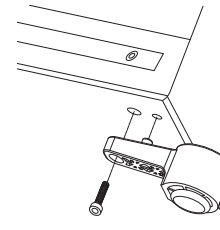

Figure 7B
11. Using the supplied wrench and bolts attach the four feet to the Loudspeaker. Refer to figure 7B.